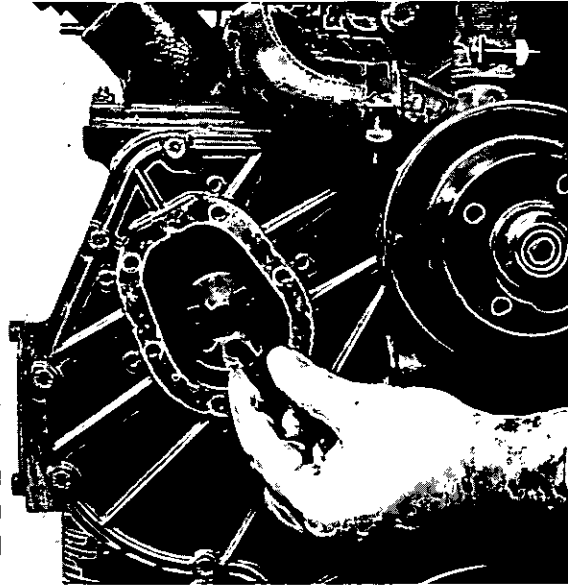

Fig. L.9
4. Carefully remove the three setscrews and washers securing gear to fuel pump shaft (Fig. L.9), taking care not to drop them into timing case. If gear is loose, ensure that it does not fall heavily on to aluminium stop of timing case as this could snap off allowing fuel pump gear to come out of mesh with idler gear. If gears do come out of mesh, it could affect fuel pump timing.